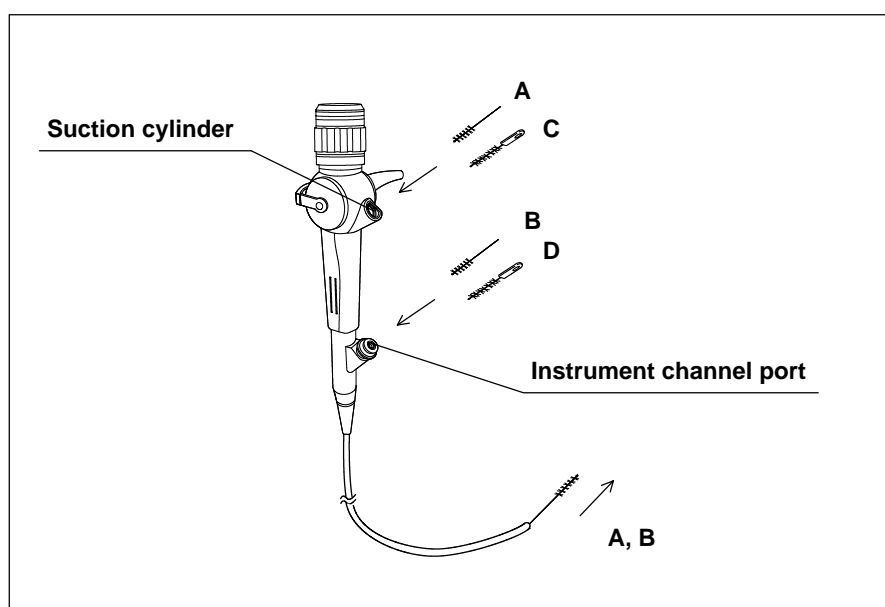

Figure 7.10
While the endoscope is submerged, brush the instrument/suction channels, suction cylinder and instrument channel port according to the following procedures (see Figure 7.10).
2. Insert the channel cleaning brush into the suction cylinder as illustrated by A in Figure 7.10. Using short strokes, feed the brush through the insertion tube until it emerges from the distal end of the endoscope.
2. Insert the channel cleaning brush straight into the instrument channel port as illustrated by B in Figure 7.10. Using short strokes, feed the brush through the instrument channel until it emerges from the distal end of the endoscope.
1. Insert the channel-opening cleaning brush into the suction cylinder as illustrated by C in Figure 7.10, until half of the brush section is inserted.
1. Insert the channel-opening cleaning brush (MH-507) into the instrument channel port as illustrated by D in Figure 7.10 until the brush handle touches the channel opening.